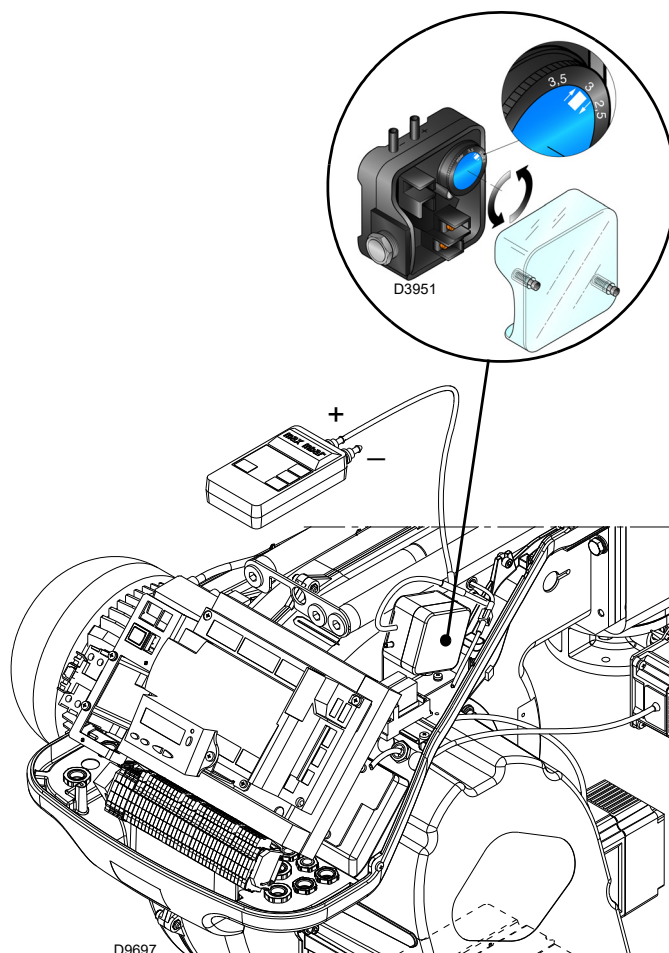

Fig. 33
- Adjust the air pressure switch (Fig. 33 at page 33) to the start of the scale.
Adjust the air pressure switch (Fig. 33) after having performed all other burner adjustments with the air pressure switch set to the start of the scale.
The connection of the pressure gauge is shown in Fig. 33. The standard configuration is that with the air pressure switch connected in absolute mode. Note the presence of a "T" connection, not supplied.
In this case also, the pressure gauge must be connected in differential mode, as shown in Fig. 33.